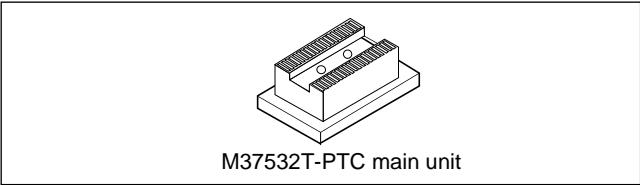

Figure 1 Package components of M37532T-PTC
2. Package Components (see Figure 1)